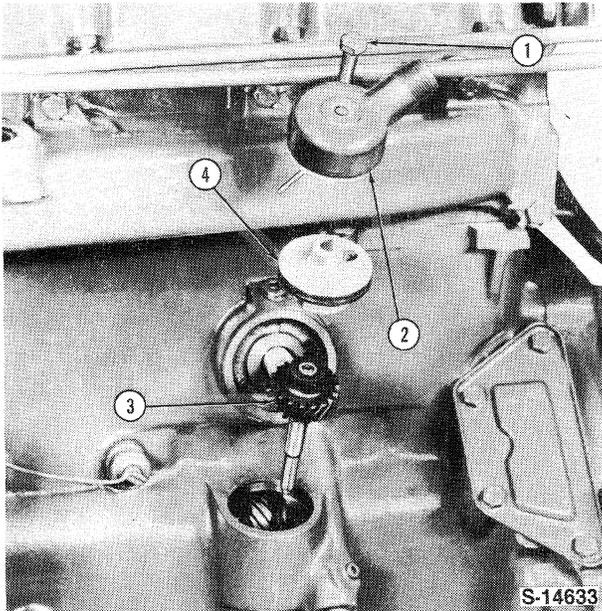

Figure 29
4. Slacken the retaining bolt then withdraw the driveshaft adapter assembly and the oil pump drive gear, Figure 29.